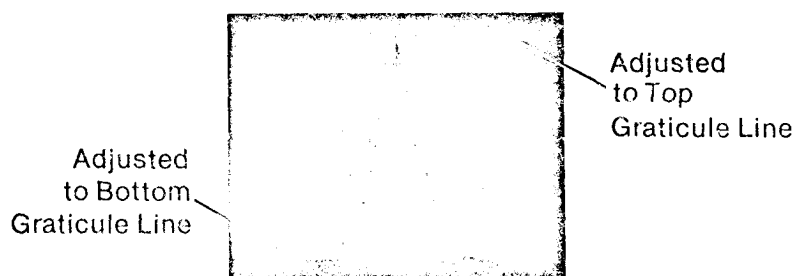

Figure 32. Spectrum Analyzer Calibration Signal Used To Adjust 8750A
- q. On the 8750A, press **B** then **INPUT**. At the 8750A rear panel, adjust the **VERT IN OFF** (Vertical Input Offset) control to place the bottom of the oscilloscope CRT trace on the bottom graticule line, and adjust the **VERT IN GAIN** (Vertical Input Gain) control to place the top of the signal trace on the top graticule line (See Figure 32).